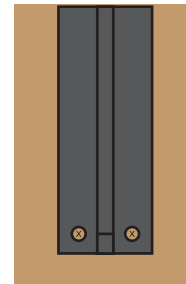

Figure 1
4. Use the bracket as a template to mark and drill  $\frac{1}{8}$ " pilot holes  $\frac{1}{2}$ " deep (see Figure 1).